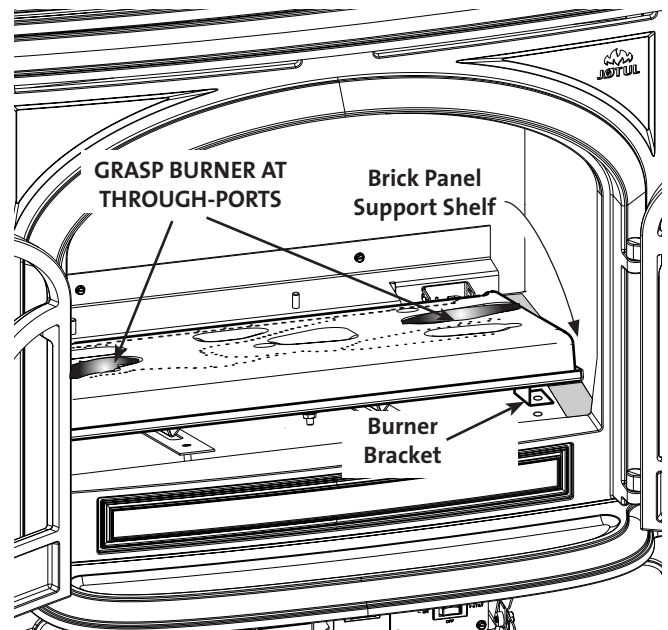

Figure 27. Pull the Burner assembly forward and up to disengage it from firebox.
5. Lift the Brick Panel Support Shelves from the firebox floor to access and remove two #8x 1/2" sheet metal screws that secure the Burner Brackets to the floor. See figs. 27 and 77,
6. Grasp the burner at the large left and right through-ports and pull the assembly up and forward to disengage it from the burner injectors. Tilt the assembly to fit through the door opening. See fig. 27.